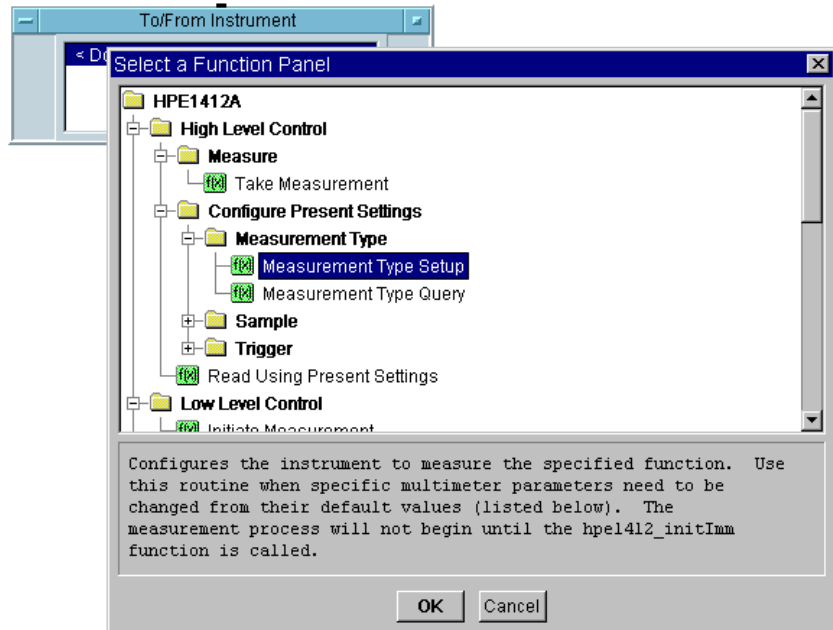
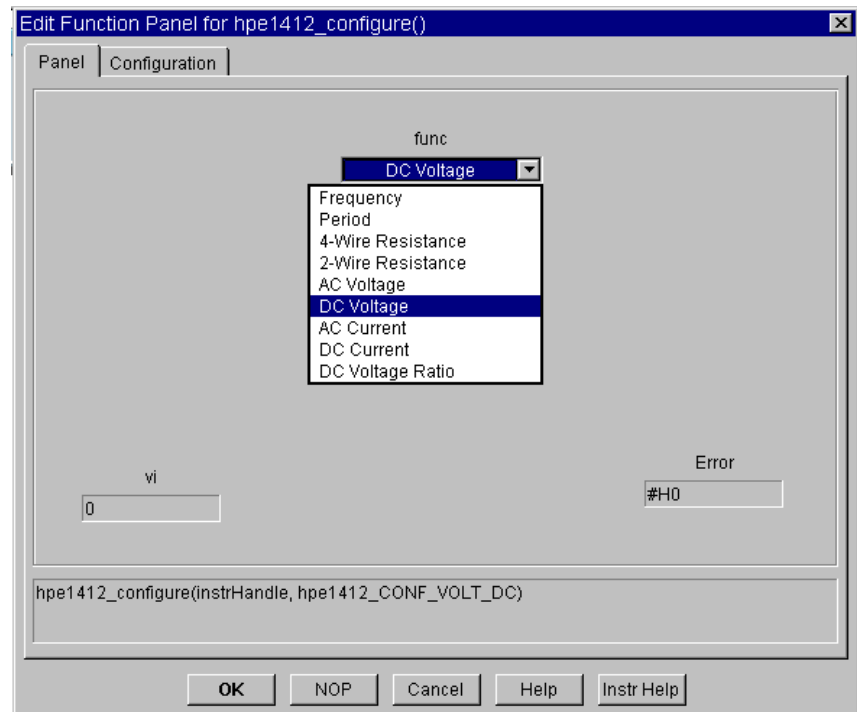

Figure 106 Selecting a Function for a *VXIplug&play* Driver
Figure 107 The hpe1412 Edit Function Panel
- 5 Double-click on the transaction bar labeled <Double-click to Add Function>, and Select a Function Panel is displayed as shown in Figure 106. Figure 107 shows the hierarchy of functions in the function panel. Notice that Help for the item selected is displayed in the dialog box.
- 6 Click **Configure Present Settings** ⇒ **Measurement Type** ⇒ **Measurement Type Setup**. The **Edit Function Panel** is displayed. Under **func**, click to display the drop-down list. Select the default **DC Voltage**, as shown in Figure 107.